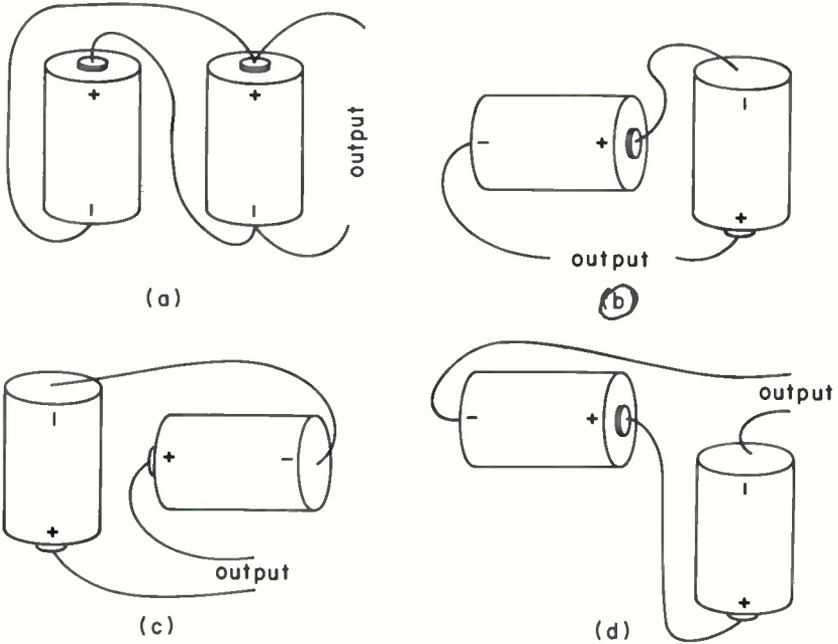

Fig. 14
- 12 4. Only one of the pairs of batteries in Fig. 14 is correctly connected in series. Which one is it?